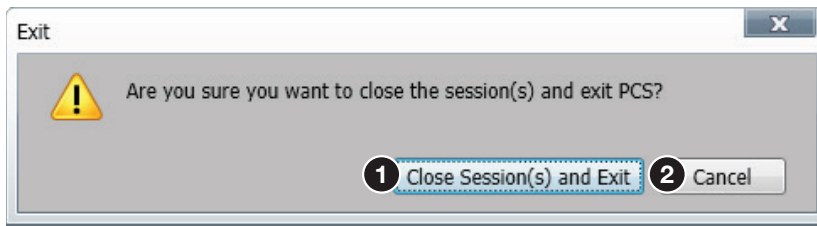

Figure 70. Exit Dialog Box
2. If necessary, click the **Close Session(s) and Exit** button (see figure 70, ①) to disconnect the software from connected devices, close all offline device tabs, and close the software. Click the **Cancel** button (②) to leave the software open.